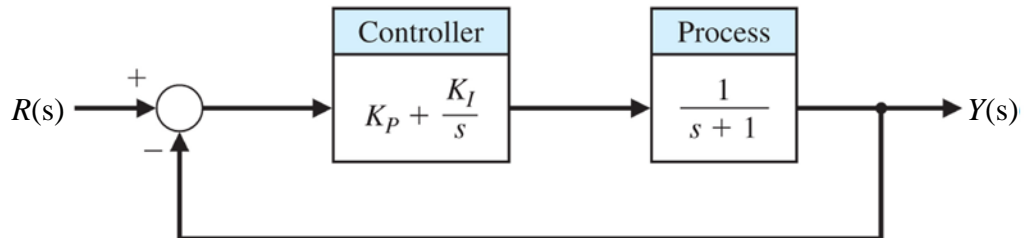

Figure Q6[b]
- [b] A control system with a controller is shown in Figure Q6[b]. Add a pre-filter and select K_p and K_I so that the step response is deadbeat and the settling time (with a 2% criterion) is less than 2 seconds. Use the coefficient and response measure of a deadbeat system from Table Q6[b].